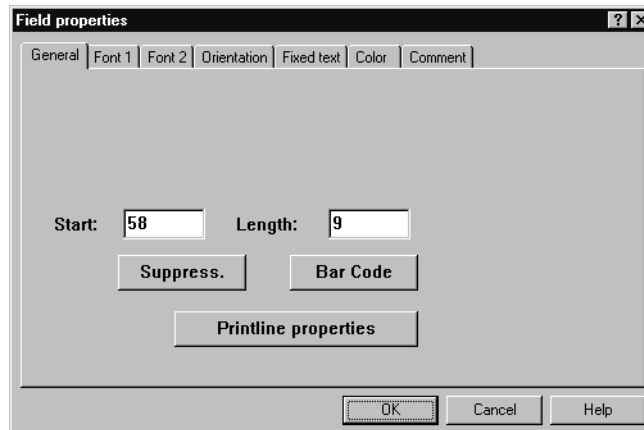

Figure 20. Field properties
7. We now need to modify the price fields in the page definition so that the **PACK** suppression prevents them from printing on the packing slip. Activate the **View/Edit** window. Select the first field in the price column and right click on it to bring up the Field properties dialog, as shown in Figure 20.